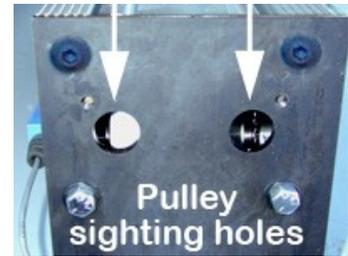
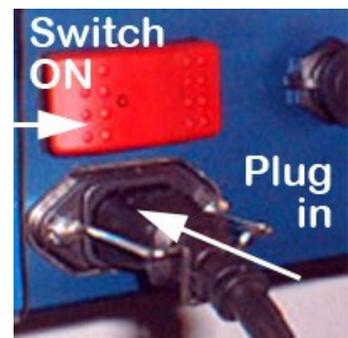

Fig. 24 — Inspect belt tracking.
Fig. 25 — Plug in, and switch ON power.
8. Pull the belt toward the other belt clamp (Fig. 24, c) and hold it firmly in line with the remaining belt clamp. Then mark on the belt where the end of it should be (Fig. 26). Undo the belt clamp and remove it to use as a template again.
6. **Plug in the power cord and switch ON power** (Fig. 25), and move TigerTurbo back and forth, while an assistant inspects belt tracking through the sighting holes (Fig. 24) in the idle end plate.